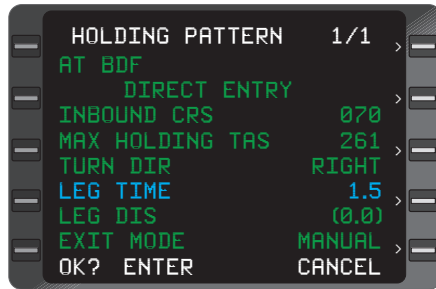

Figure 3-90
3. **ENT** Key - DEPRESS to display the **HOLDING PATTERN** Page with both the **OK? ENT** and **CANCEL** option. (Figure 3-90)